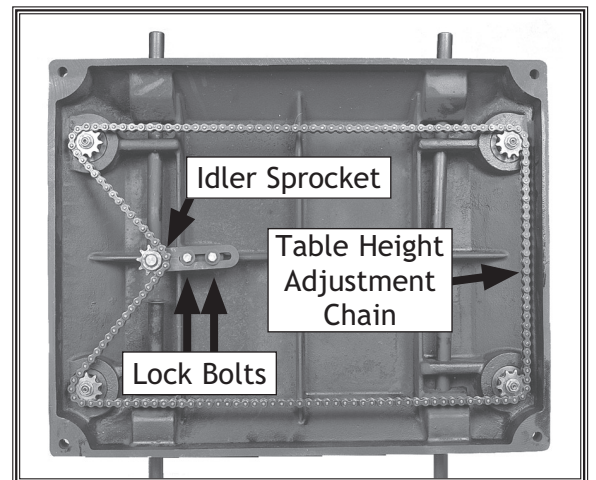

Figure 21. Underside of table.
Chain: The table height adjustment chain (see **Figure 21** on **Page 28**) should be inspected monthly and lubricated with general purpose grease when needed.
- Loosen the two lock bolts, move the idler sprocket against the chain to tighten it (**Figure 21**) and re-tighten the locking bolts.